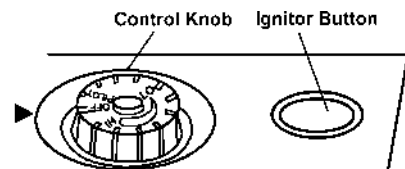

Figure 20 - Control Knob In The OFF Position HR10TN
4. Wait five(5) minutes to clear out any gas. Then smell for gas, including near the floor. If you smell gas, STOP! Follow "B" in the safety information on the side of heater. If you don't smell gas, go to the next step.
5. Turn control knob counterclockwise ↻ to the PILOT position. Press in control knob for five(5) seconds. (see Figure 20).